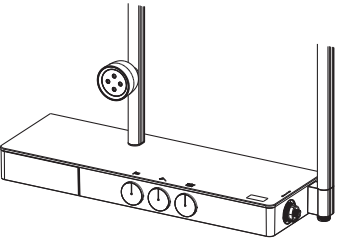

Fig.5
拆卸前确保温控把手(30)上的按钮垂直朝下。卸下温控把手(Fig.5)。
不要转动温控阀轴，安装温控把手(30)，使温控把手上的按钮垂直朝下(Fig.5)。
Before your action, ensure the button on the temperature handle(30) is downward vertically. Remove the plug(30). Take out the temperature handle(Fig.5).
Do not turn the cartridge spindle. Install the temperature handle(30). Make sure the button on the temperature handle is downward vertically(Fig.5).